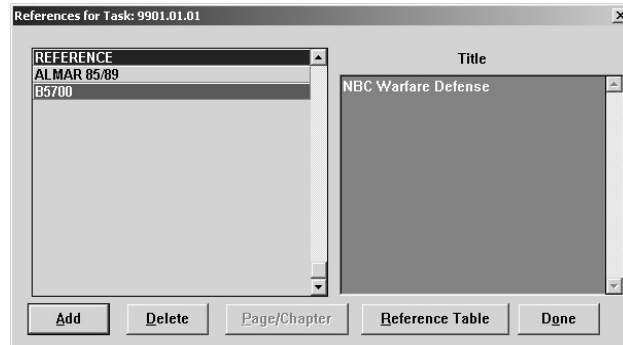
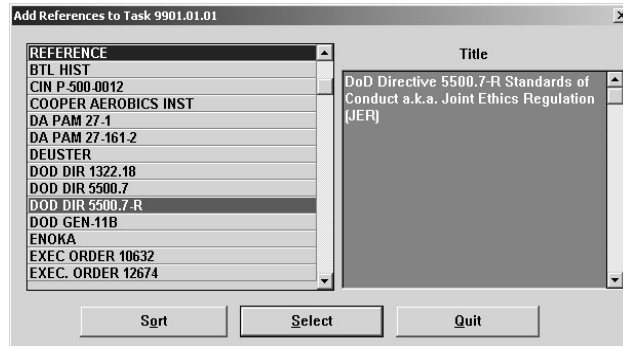
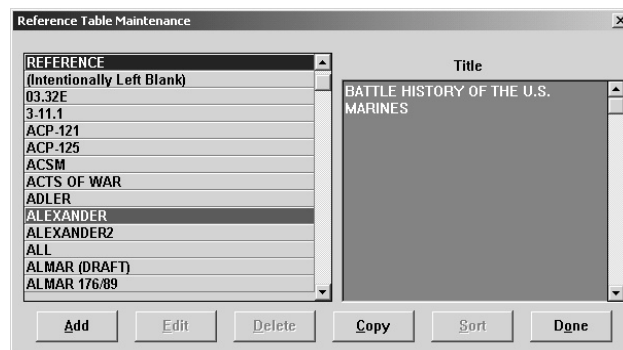

Figure 6-34. References for Task
Figure 6-35. Add References to Task
Figure 6-36. Reference Table Maintenance
2. Click on **References**. The References for Task selection list box (Figure 6-34) opens. All references currently assigned to this task are listed here. Note that MCAIMS identifies the task in the title bar.
1. From the References for Task selection list box (Figure 6-34), click on **Add**. The Add References to Task selection list box (Figure 6-35) opens and MCAIMS displays all references (in reference code order) currently in the Reference Table for this course. Note that MCAIMS identifies the task in the title bar.
1. From the References for Task selection list box (Figure 6-34), mark the reference(s) you desire to delete from this task using the multiple select feature.
1. From the References for Task selection list box (Figure 6-34), click on **Reference Table**. The Reference Table Maintenance selection list box (Figure 6-36) opens.
1. From the Reference Table Maintenance selection list box (Figure 6-36), click on **Add**. The Reference Add dialog box (Figure 6-37) opens.
1. From the Reference Table Maintenance selection list box (Figure 6-36), click on **Copy**. A dialog box similar to the one in Figure 6-35 opens with a comprehensive list of all the references added to other courses on the same computer or server as your MCAIMS installation.